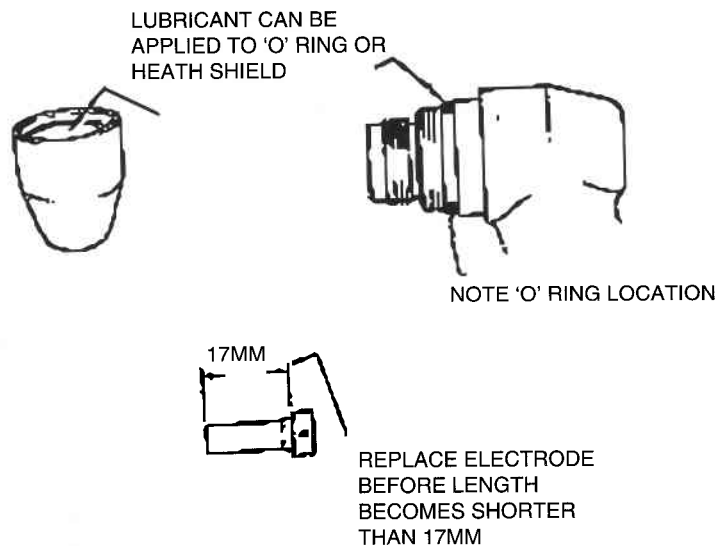

Figure 12 'O' ring and Electrode Maintenance
4. Apply a small amount of lubricant part no. 1414217 to the heat shield or to the 'O' ring see fig 12.